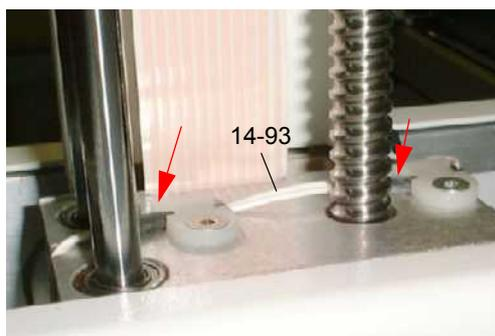

Figure 6-134 Fixation of Z-brake cable
- Make sure the parts of the Z-brake cable (14-93) which are covered with shrinkable tubing are fixed well with the cable clamps (see Figure 6-134, 'Fixation of Z-brake cable').